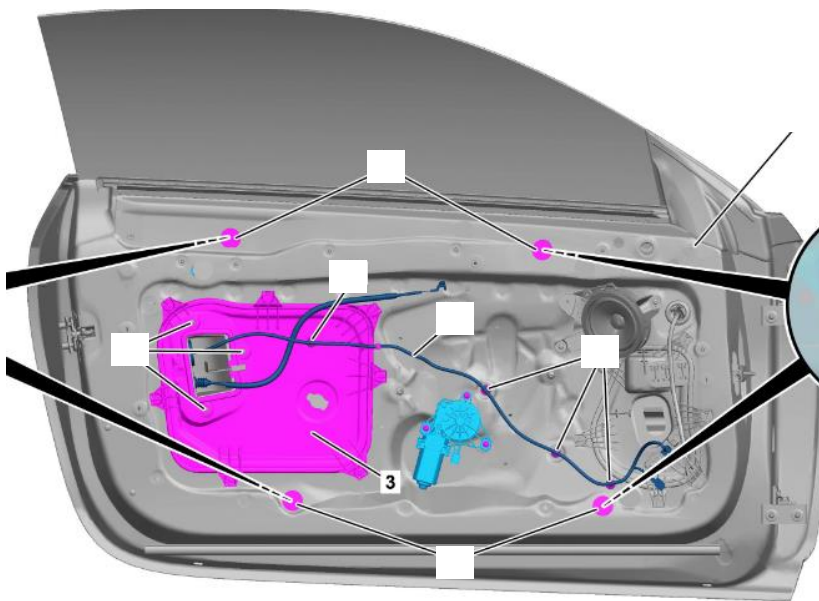

Figure 1
2. Remove cover (Figure 1, 3) under door trim.